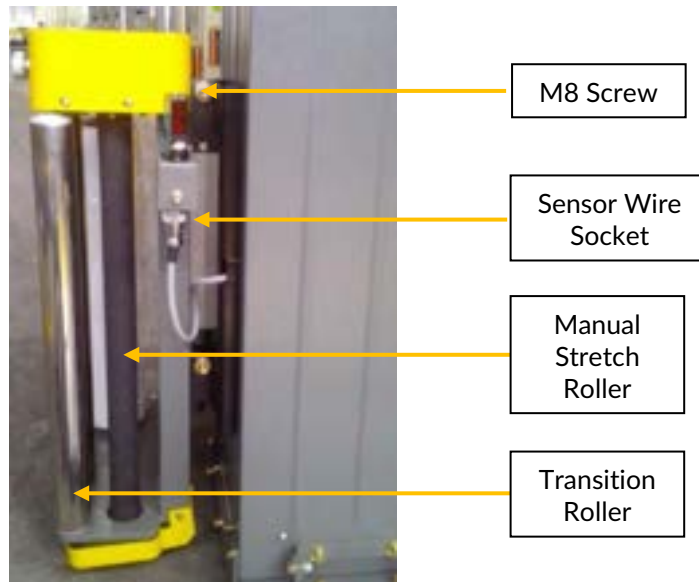

Fig. 2-7
Step 4b (*Eagle 1000A*) - Insert the connector plug inside the bottom of the mast into the corresponding receptacles. (See Fig 2-7)